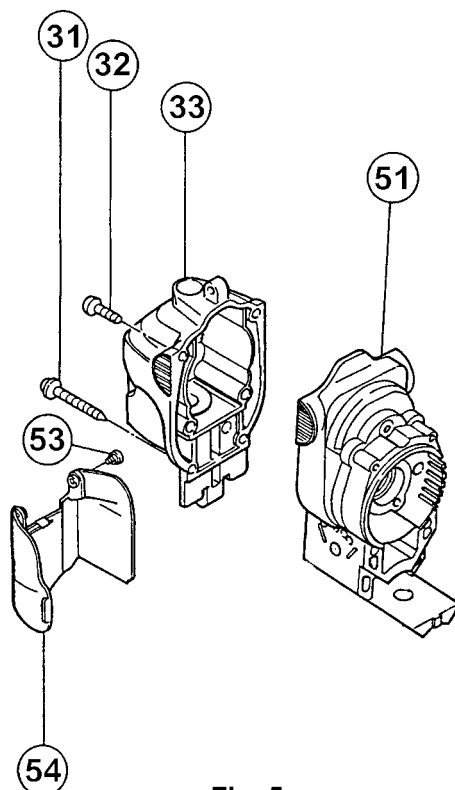

Fig. 5
(3) Removal of the Upper Cover [33] (Fig. 5)